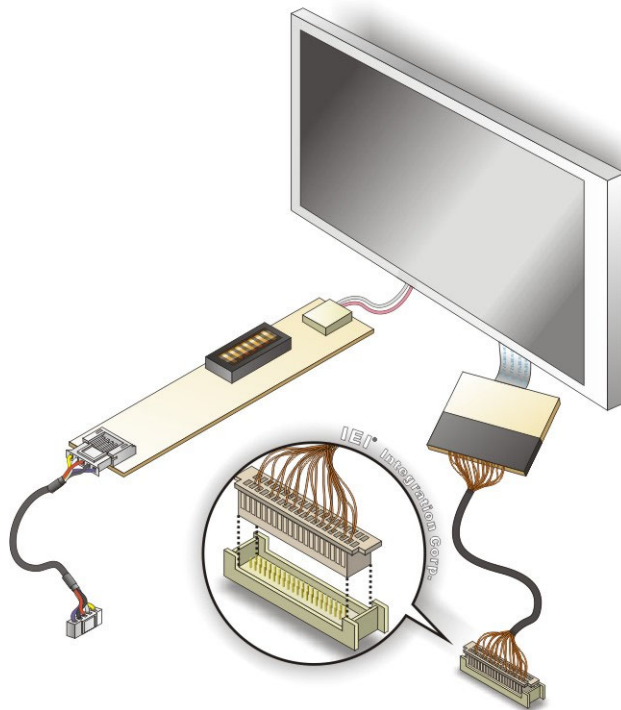

Figure 4-21: LVDS Connector
Step 2: **Insert the cable connector.** Insert the connector from the LVDS PCB driving board to the LVDS connector as shown in **Figure 4-21**. When connecting the connectors, make sure the pins are properly aligned.